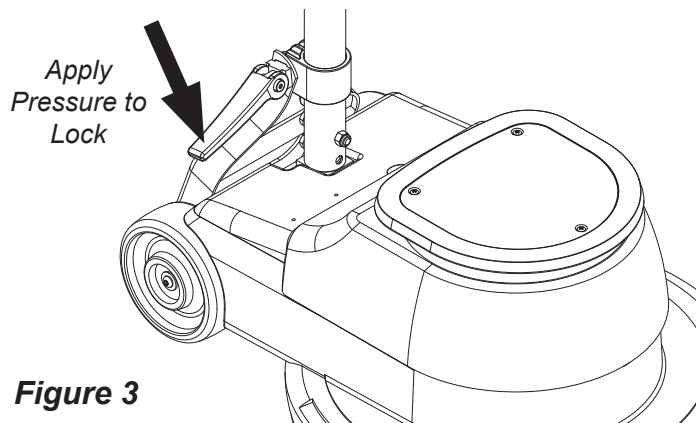

Figure 3
**Locking Lever** (see Figure 3).